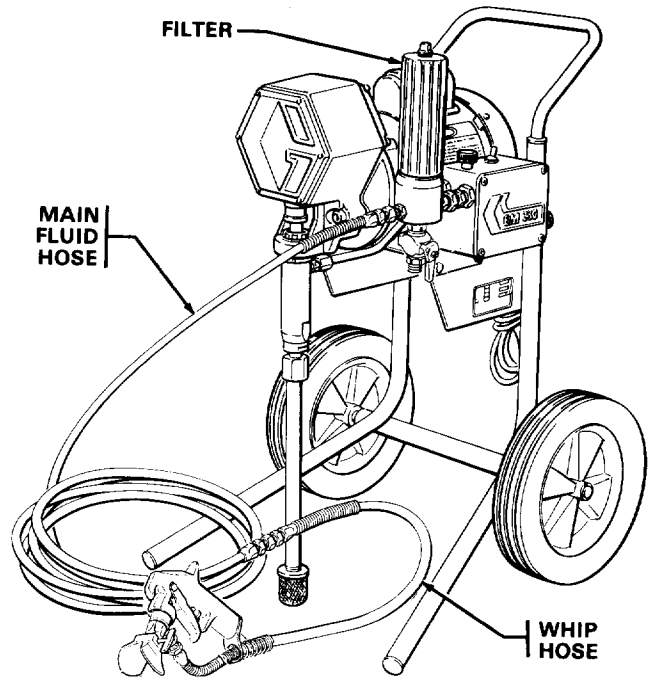

Fig 1
1. **Connect Hose and Gun** (Refer to Fig 1.)